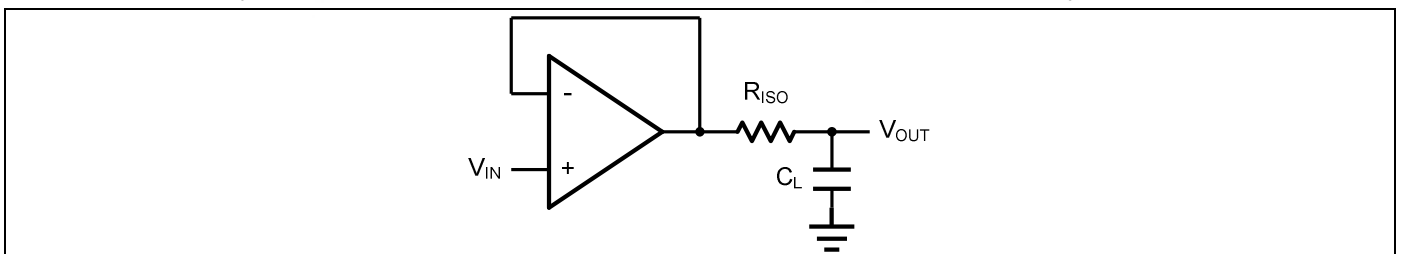
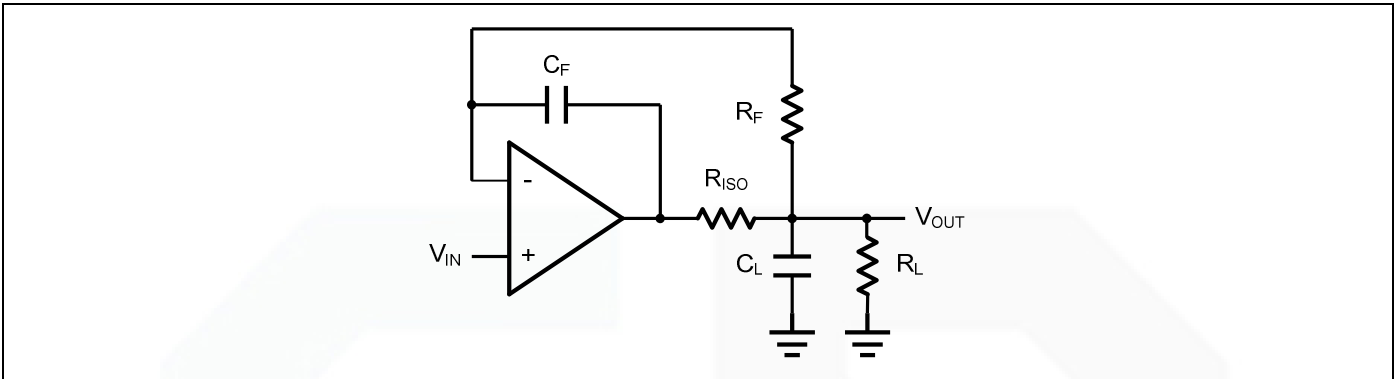

Figure 2. Indirectly Driving a Capacitive Load Using Isolation Resistor
Figure 3. Indirectly Driving a Capacitive Load with DC Accuracy
The GS855x family is optimized for bandwidth and speed, not for driving capacitive loads. Output capacitance will create a pole in the amplifier's feedback path, leading to excessive peaking and potential oscillation. If dealing with load capacitance is a requirement of the application, the two strategies to consider are (1) using a small resistor in series with the amplifier's output and the load capacitance and (2) reducing the bandwidth of the amplifier's feedback loop by increasing the overall noise gain. Figure 2. shows a unity gain follower using the series resistor strategy. The resistor isolates the output from the capacitance and, more importantly, creates a zero in the feedback path that compensates for the pole created by the output capacitance.
The circuit in Figure 3 is an improvement to the one in Figure 2.  $R_F$  provides the DC accuracy by feed-forward the  $V_{IN}$  to  $R_L$ .  $C_F$  and  $R_{ISO}$  serve to counteract the loss of phase margin by feeding the high frequency component of the output signal back to the amplifier's inverting input, thereby preserving the phase margin in the overall feedback loop. Capacitive drive can be increased by increasing the value of  $C_F$ . This in turn will slow down the pulse response.